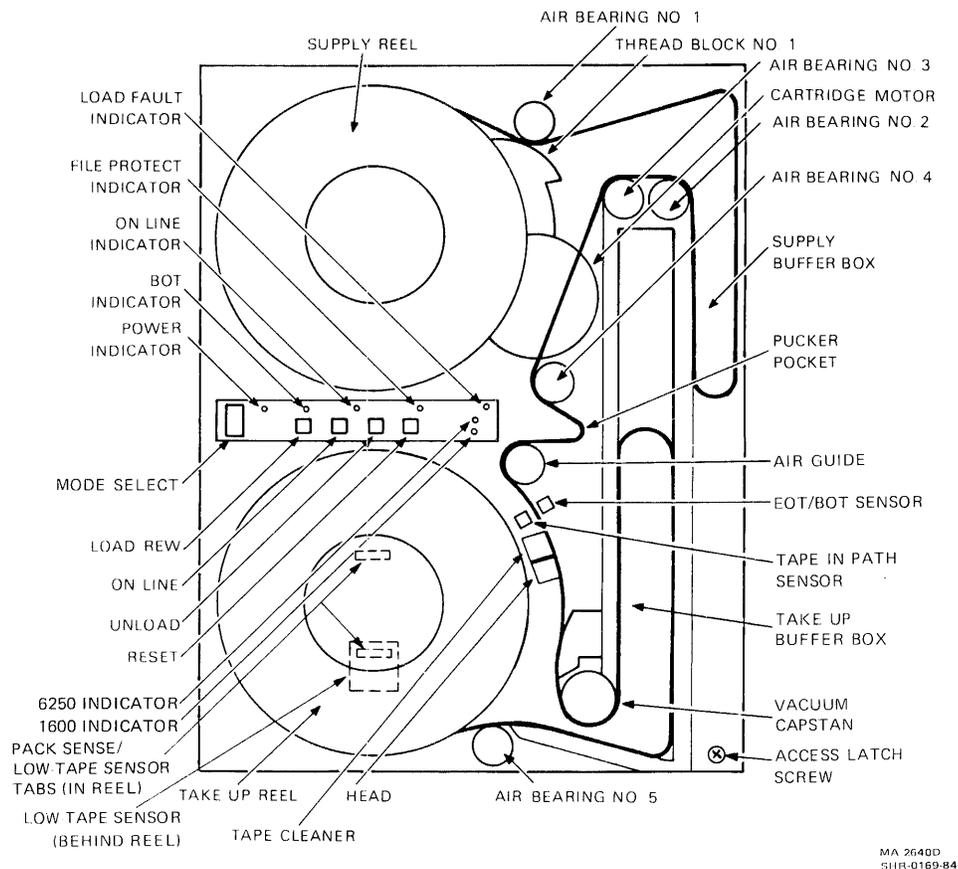

Figure 3-4 Base Assembly Front Components
5. Install the work tape reel on the supply hub. Thread the tape so the EOT and BOT reflective tabs are not under the sensors (Figure 3-4). Maintain tension with one end of the tape by holding the tape on the capstan. The tape must contact the head surface.
4. Rotate the take-up reel until the sensor tab (on the inside of the outer flange of the reel) is in line with the low tape sensor behind the reel (Figure 3-4).